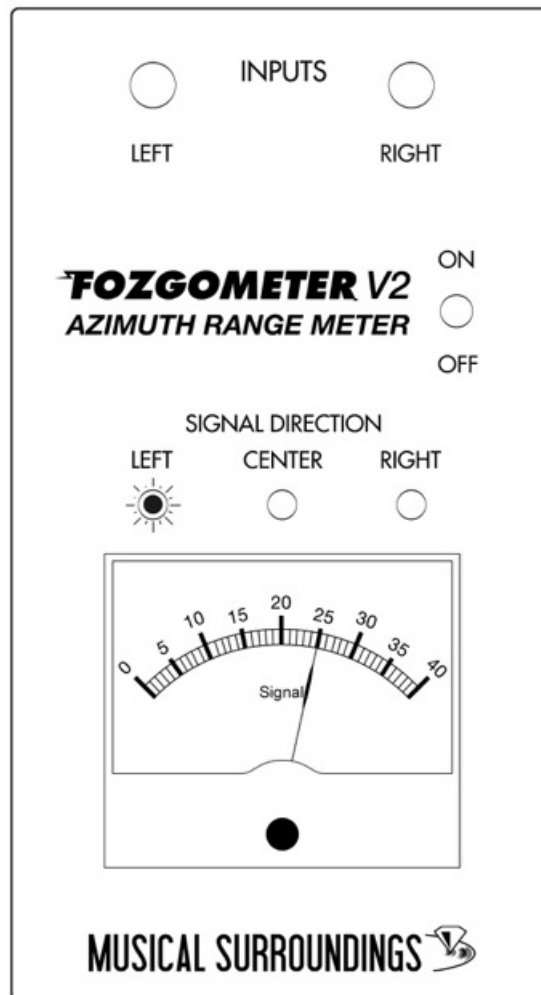
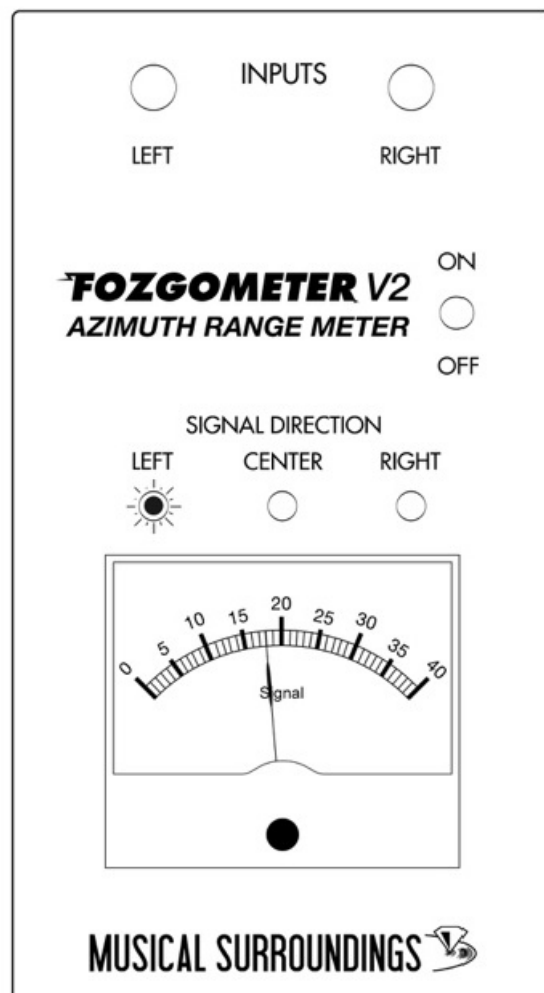

Figure 4, Left 25
Figure 6, Left 18
2. Play Track 2 on Test LP and the LEFT SIGNAL DIRECTION indicator should light (if the right indicator lights, the channels are reversed and need to be corrected). Note the meter reading as in figure 4.
Alternate playing track 2 (left) and track 3 (right) test tracks and make small adjustments in Left and Right tilt of the headshell and cartridge until both readings are the same or as close as possible. If the right channel reading is lower than the left channel, as in figures 4 and 5, you typically turn the headshell and cartridge “counter-clockwise” when looking at the tonearm from the front. If the right channel reading is higher than the left channel as in figures 6 and 7, you typically turn the headshell and cartridge “clockwise” when looking at the tonearm from the front.